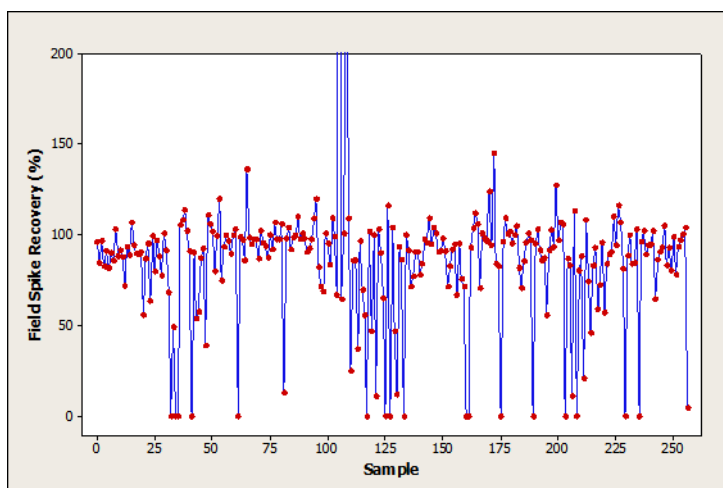

Figure 1. Total Cyanide Field Spike Recoveries using Manual Distillation and Automated Colorimetry. Adapted from (1).
Figure 1 shows TCN FS recoveries for complex cyanide field spikes on industrial wastewater samples over about 15 months (13). Many low FS recoveries and some high FS recoveries are evident. Note that the FS recovery is calculated like a MS, taking into account the observed CN concentration for the native (unspiked) sample.